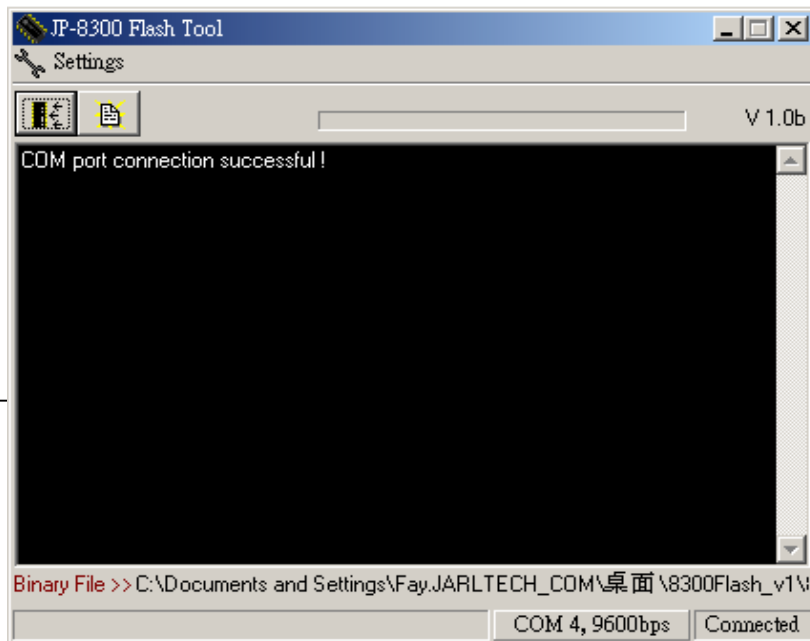

Figure 3-5
4. Click first icon (Flash button) of icon bar to start flash, it'll connect COM 4 first, and then the result will appears in flash window. The binary file and setting status will also show on the bottom. (See figure 3-5).